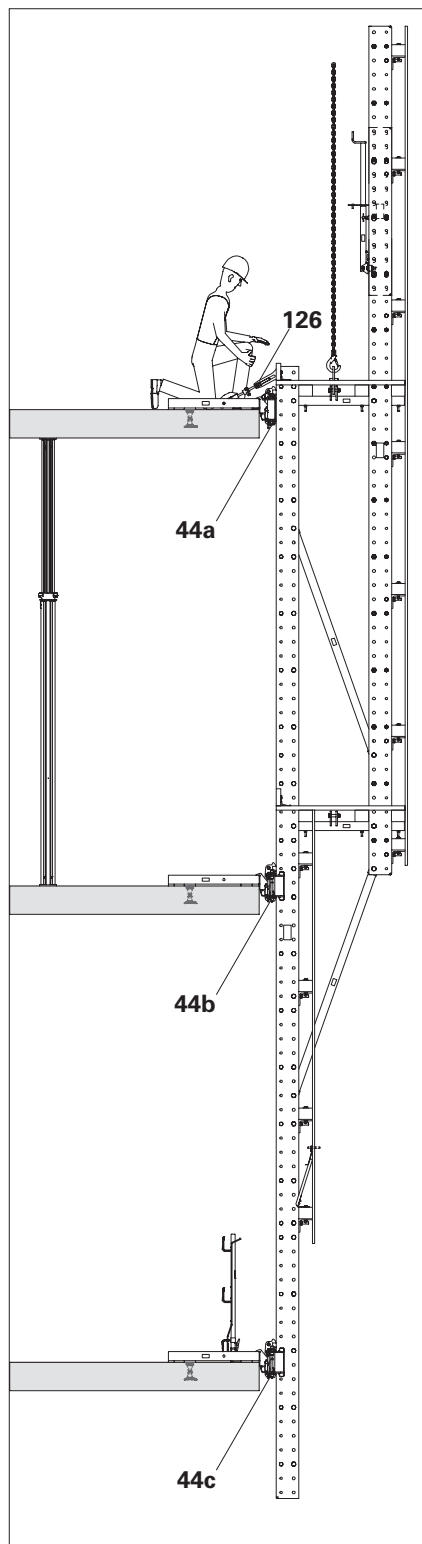

Fig. D3.02
6. Lower the climbing unit until the spacers are fully load-bearing on the climbing pawls of the middle slab shoe (**44b**). (Fig. D3.02)